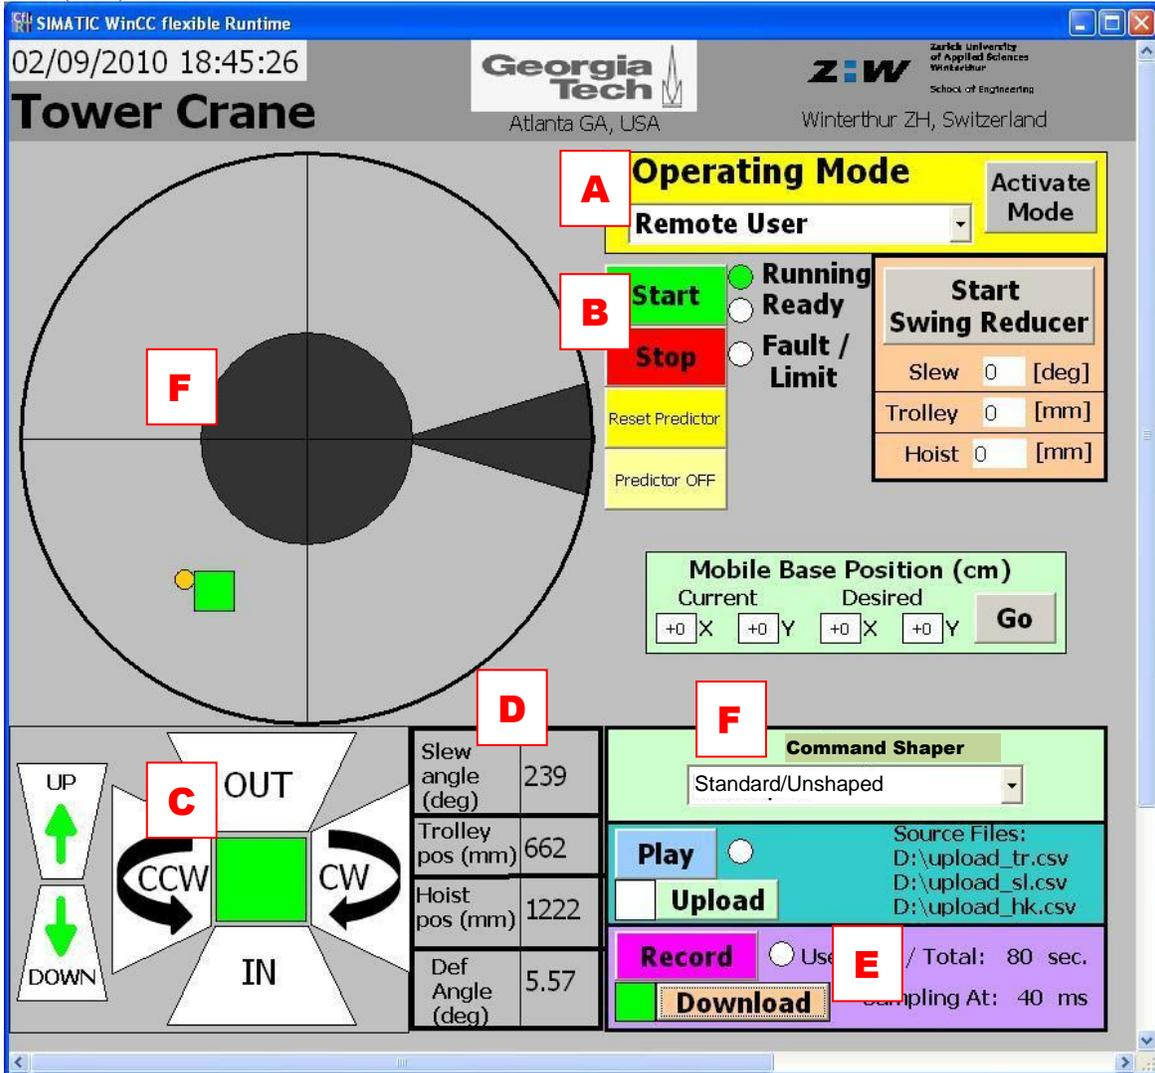
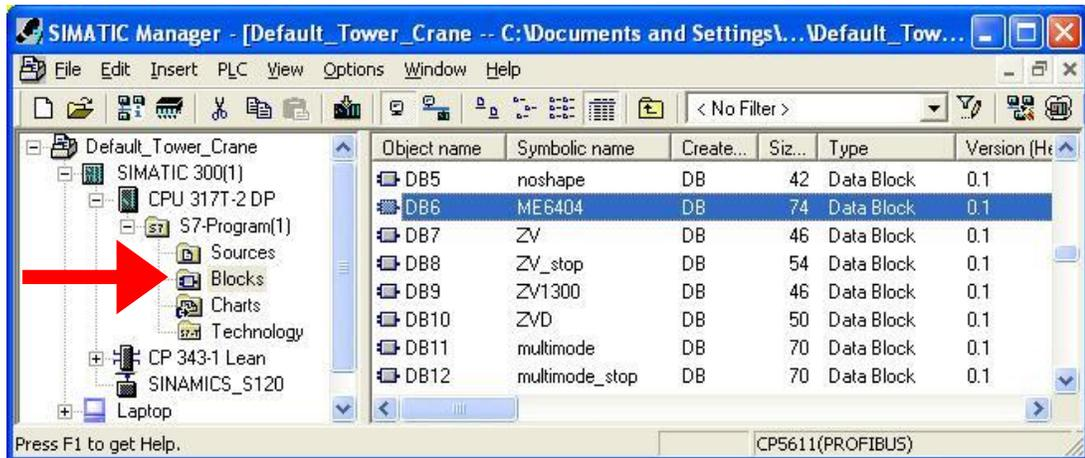
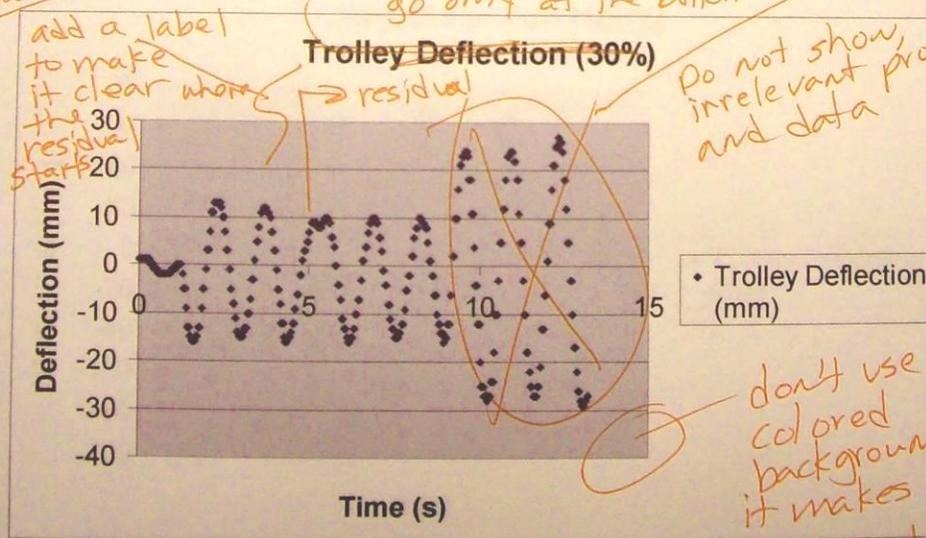

Figure 2: Tower Crane GUI
Figure 3: Simatic Manager
Figure 1: Deflection at 30% Speed
2. Open the shortcut “**Tower Crane GUI**” on the desktop. The interface shown in Figure 2.
- Navigate to the **DB6 ME6404** data block as shown in Figure 3 and double click.
15. Go back to the GUI (Figure 2), and move the crane to an area so that there is enough space to run the entire velocity profile.
The oscillations in Figure 1 show an amplitude of about 13mm while the trolley is moving from its starting point through the 30cm path. The larger oscillations that occur after 9 seconds are when the trolley is returning to its start position, so are not relevant. At 60% of maximum speed in Figure 2, the oscillations increase to 75mm, so a 100% speed increase resulted in a 477% rise in oscillations. At 100% speed in Figure 3, the oscillations improve slightly to a 65mm amplitude for the first peak, then the subsequent peaks are closer to 45mm amplitudes. This data demonstrates that faster motion has the potential to create more residual vibrations in the system, but after a certain maximum velocity, the vibrations can be reduced. The amount of vibrations generated are a function of both the move distance and the maximum velocity, so by holding the move distance constant at 30cm, this lab focused on how maximum velocity alone affects the system.